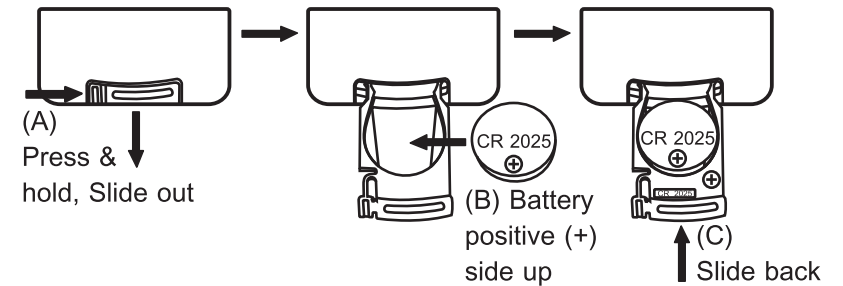

Fig. 28
4. Replacing Remote Control Battery, Fig. 28: